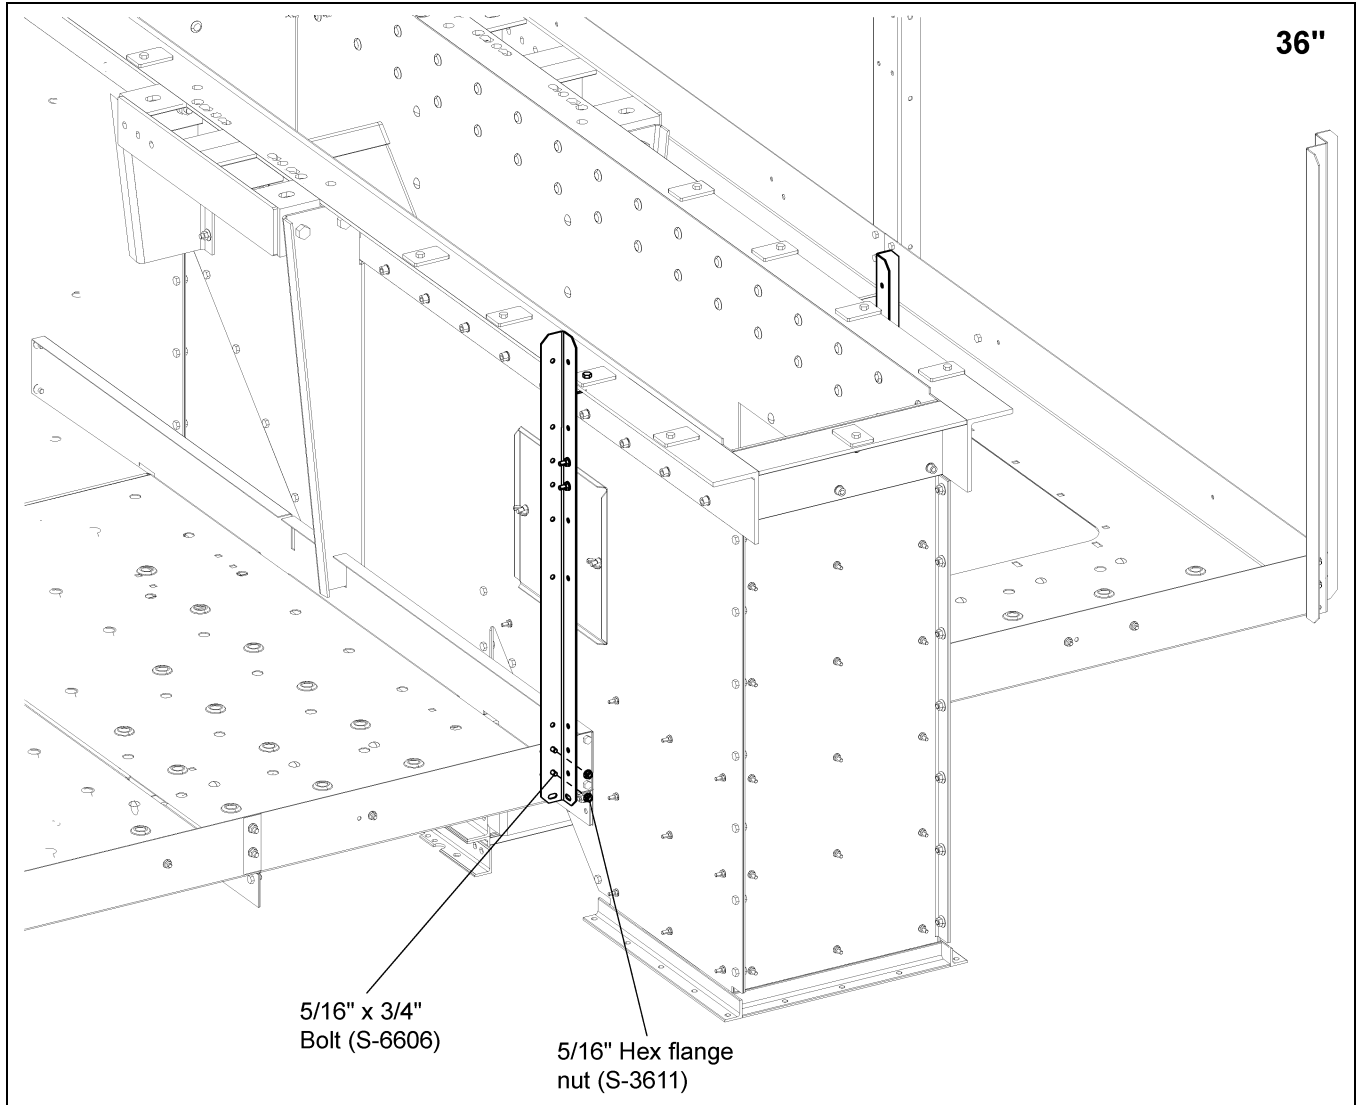

Figure 10I
3. Attach side post to decking using 5/16" x 3/4" bolts and nuts. (See Figure 10I.)